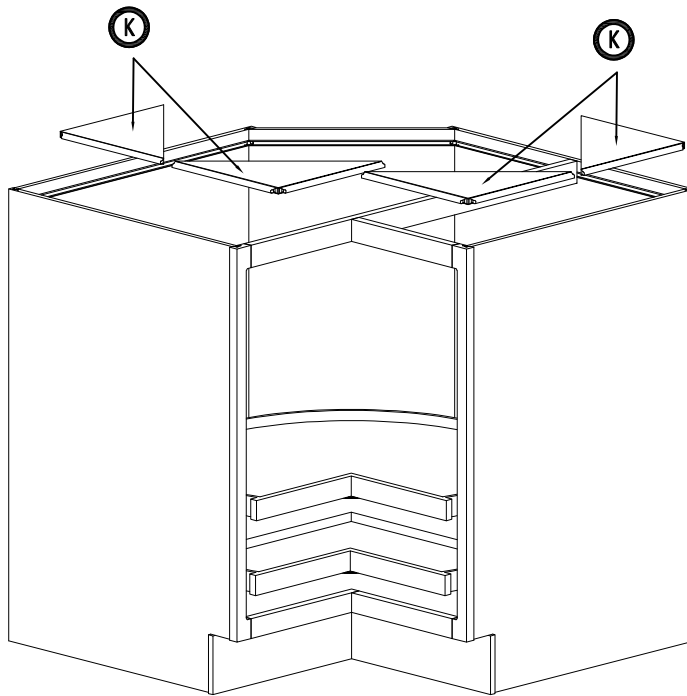

Figure 10
10. Install the corner: Insert the corner (N) into the groove of the side panel (A) Side panel (B) back panel (C) back panel (D) and Frame. Press down until they click into place. (Figure 10)
12. Assemble the door (J) to the frame and door (K) to door (J) by screwdriver (Figure 10)